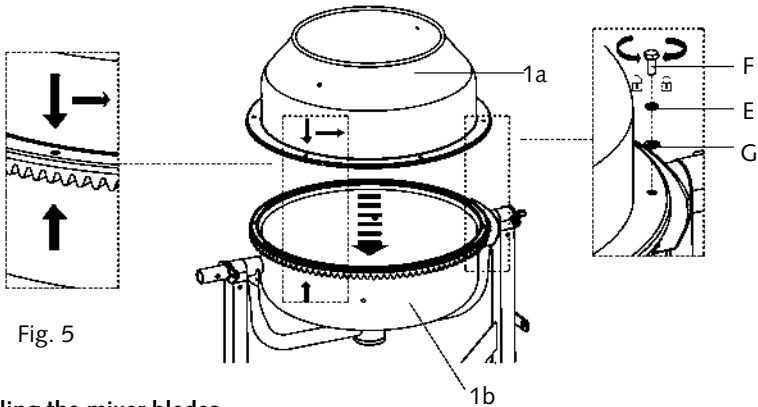

Fig. 5
- Secure the connection with bolts (F), spring washers (E) and washers (D) (Fig. 5).